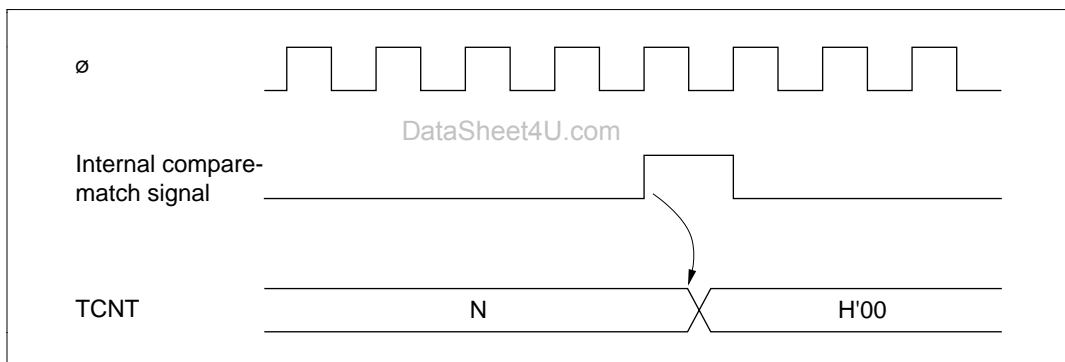

Figure 10-6 Timing of Compare-Match Clear
(3) Timing of Compare-Match Clear: Depending on the CCLR1 and CCLR0 bits in the TCR, the timer counter can be cleared when compare-match A or B occurs. Figure 10-6 shows the timing of this operation.